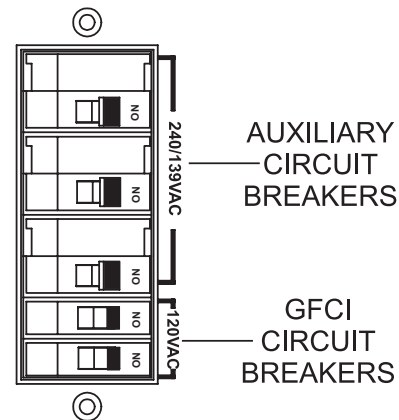

Figure 61. GFCI And Auxiliary Circuit Breakers (ON)
10. Place the **GFCI and auxiliary circuit breakers** (Figure 61) in the **ON** position to send power to the GFCI (120V) and auxiliary (dual-voltage) receptacles.